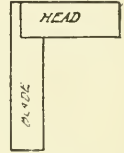
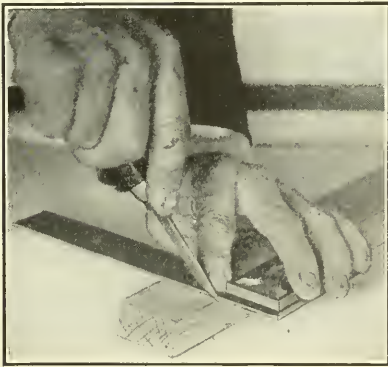
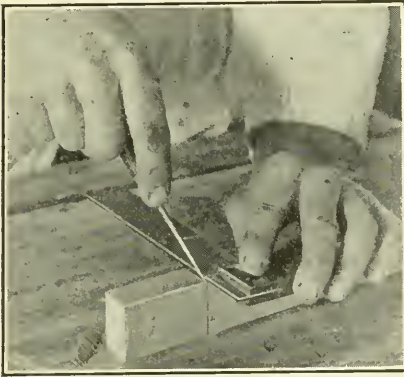

Fig. 10
Fig. 11
Fig. 13
5. **The Square.**—The *try-square* is to test right-angled work, and to mark lines at right angles across surfaces. Keep the beam or head (Fig. 10) pressed against the surface to which it is applied, and the blade will then be in position for either marking or testing a right angle (Figs. 11 and 12).
A good way to mark with the square is to place the knife on the given point and slide the square along until it hits it (Fig. 11). Then draw the line. To continue such a line upon the adjacent surface, place the knife at the end of the line as in Fig. 13, slide the square up to it, and mark the